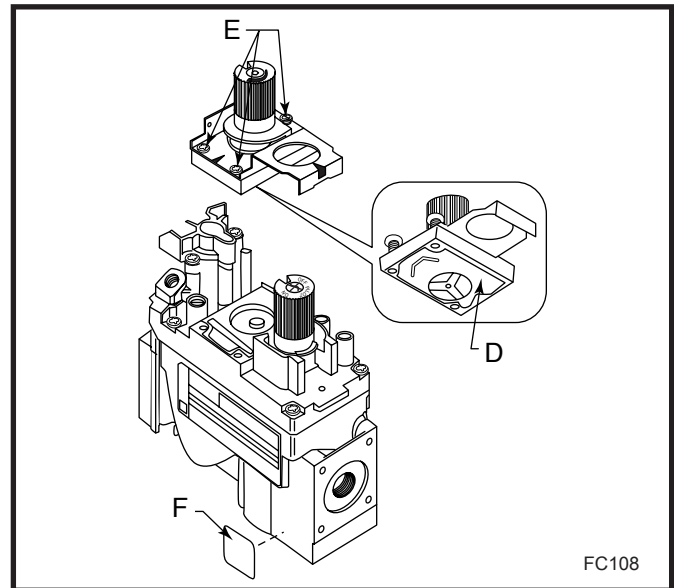

Fig. 51 Replace ignitor.
2. Insure the rubber gas-gasket (D) is properly positioned and install the new HI/LO pressure regulator assembly to the valve using the new screws (E) supplied with the kit. Tighten the screws securely. (Ref. torque = 25 in/lb) (Fig. 51)
3. Install the enclosed conversion label (F) to the valve body where it can easily be seen. (Fig. 51)